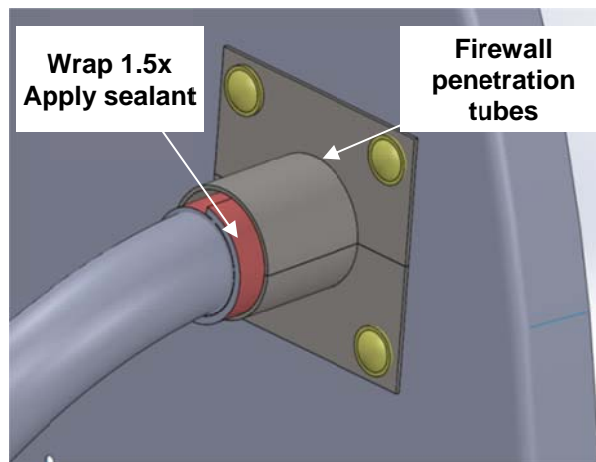

FIGURE 2 FIREWALL PENETRATION TUBES AND FIRESLEEVE
- 8) Slide the Firewall Penetration Tubes and firesleeve along the loom and secure with Qty 4 Screws retained earlier (See Figure 2).